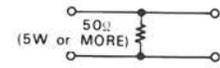

Fig. 6 Dummy Load for RF Output
- Connect the dummy load to the CB antenna connector. (Fig. 6)